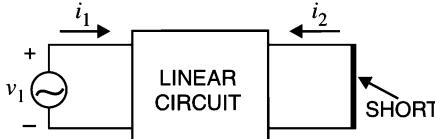

Fig. 24.2
- (i) If we short-circuit the output terminals (See Fig. 24.2), we can say that output voltage $v_2 = 0$. Putting $v_2 = 0$ in equations (i) and (ii), we get,